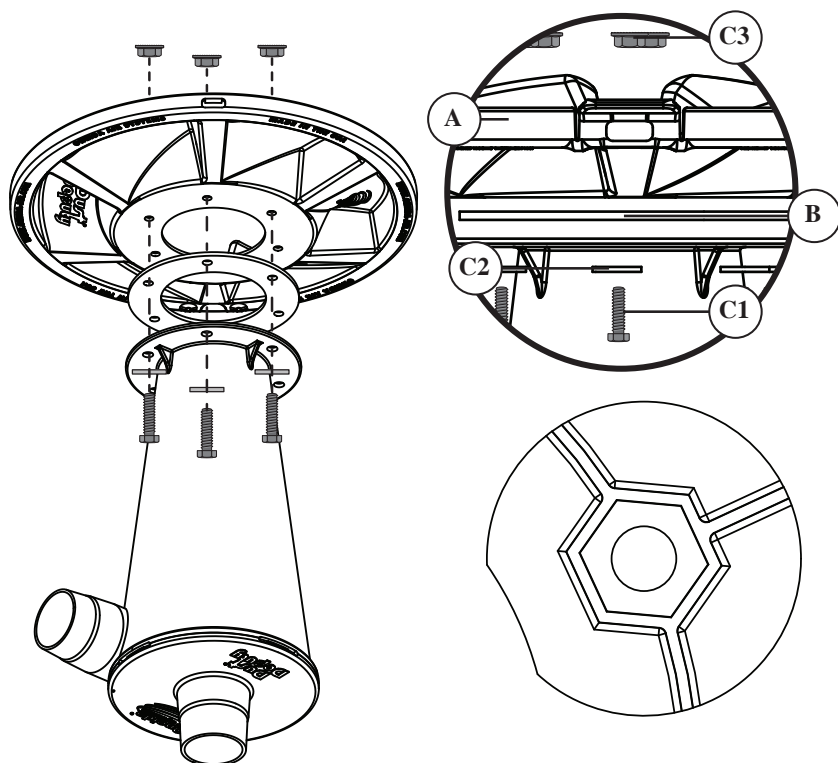

FIG. 3
Turn the Cyclone (A) upside-down. Place Gasket (B) on the base of the Cyclone and align all the holes. Place the topside of the Lid (H) against the Gasket and align all the holes. Secure Cyclone, Gasket and Lid together using six Bolts (C1), six Washers (C2), and six Whiz-Lock Nuts (C3) as shown in [FIG. 3].